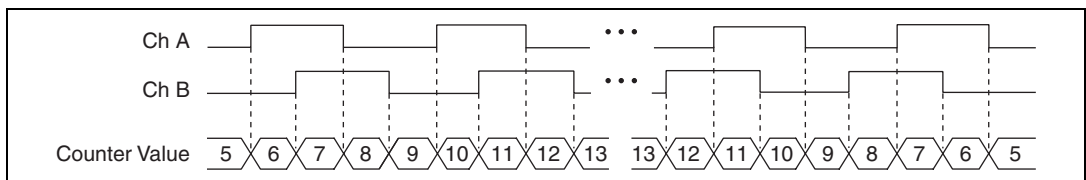

Figure 7-16. X4 Encoding
- **X4 Encoding**—Similarly, the counter increments or decrements on each edge of channels A and B for X4 encoding. Whether the counter increments or decrements depends on which channel leads the other. Each cycle results in four increments or decrements, as shown in Figure 7-16.